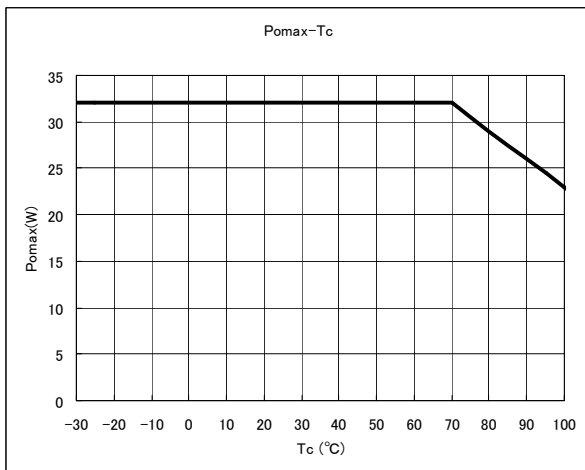
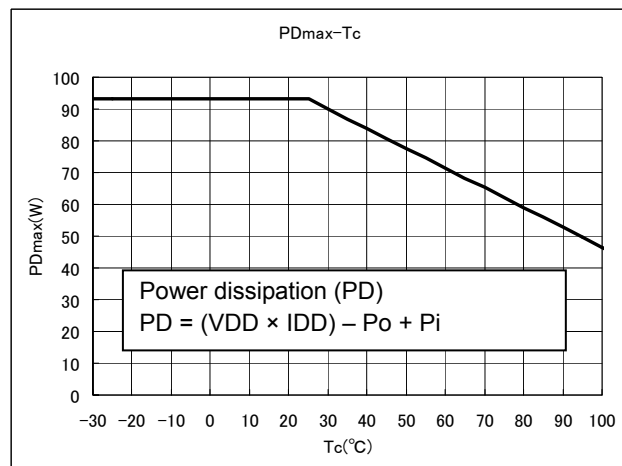

Figure 1 Pomax-Tc
Figure 2 PDmax-Tc
Note 2: The output power rating satisfies the range shown in Figures 1 and 2 according to the operating case temperature. Ensure that the device should be operated within the specified operating range. The figures below indicate the output power obtained 2 seconds after P_o is generated.
*When the device is used at T_c = 100°C, the output power rating is 23 W as shown in Figure 1. When the power dissipation at T_c = 100°C exceeds the rating shown in Figure 2, the output derating is required to limit the dissipation within the specified range.
Note 5: The output power is intended to follow the rating provided in Figure 1 in Note 2.